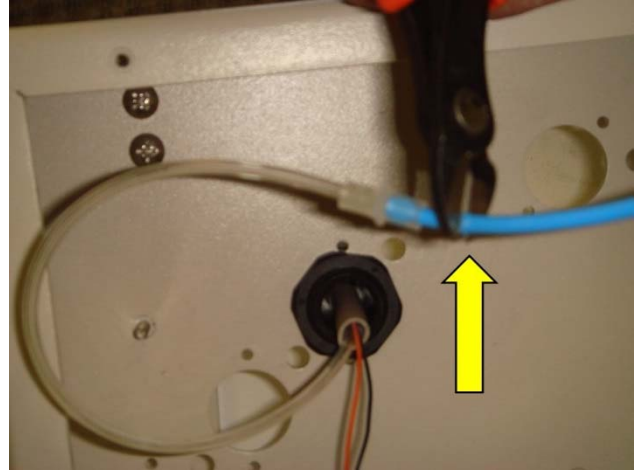

Fig. 4
6. Follow the clear waterline tubing inside the ultrasonic cord to the straight-through barb/connector and cut connecting blue tube from the coolant control valve. (Fig. 4)